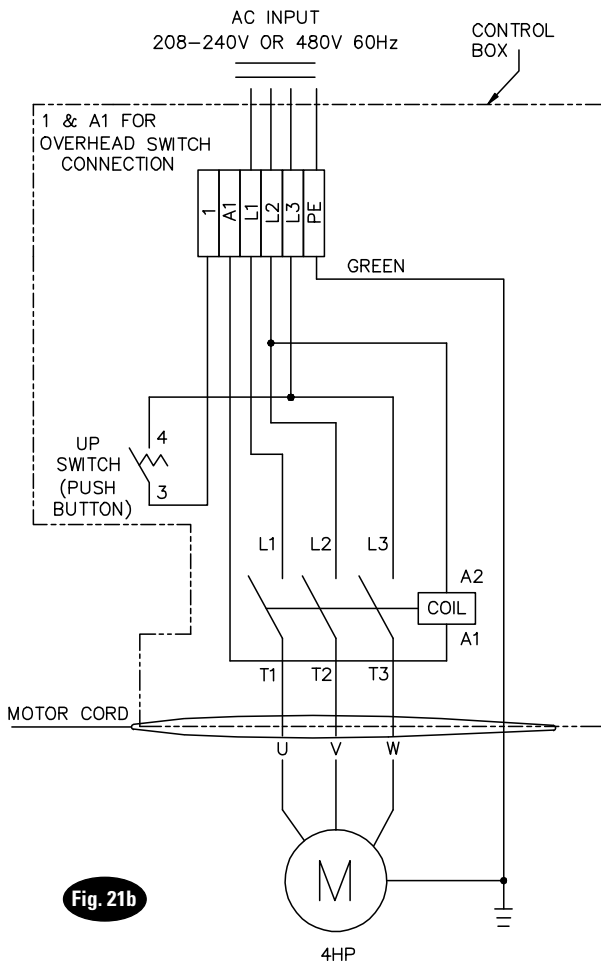

Fig. 21b
- 11. Electrical:** Have a certified electrician run appropriate power supply to motor, Fig. 20, Fig. 21 & Fig. 21b. Size wire for 20 amp circuit. See Motor Operating Data Table.
Use separate circuit for each power unit. Protect each circuit with time delay fuse or circuit breaker. For single phase 208-230V, use 20 amp fuse. Three phase 208-240V, use 15 amp fuse. For three phase 400V and above, use 10 amp fuse. For 3Ø wiring see Fig. 21 & Fig. 21b. All wiring must comply with NEC and all local electrical codes.